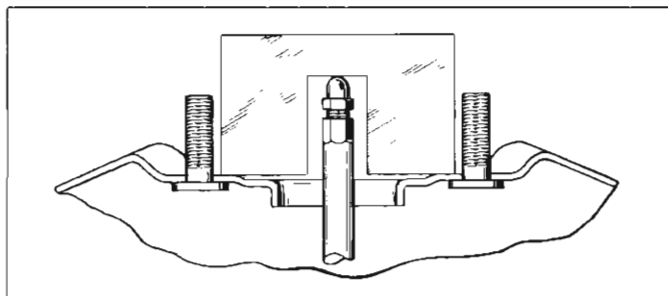

Fig. 9—Adjustment of Push Rod
15. Place Tool J-7723-01 over the push rod so that it fits between studs on front shell (fig. 9). Gauge should be parallel to studs and resting on surface of front shell. Cutout portion of gauge should just match height of push rod. Any variation may be compensated for by turning adjusting screw.